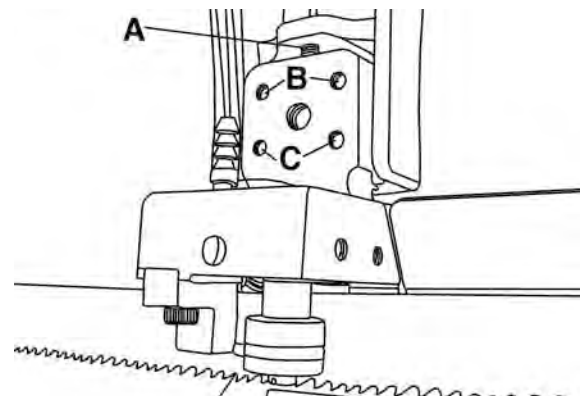

FIGURE 18
3. To make this adjustment, first loosen the set screws (A) Fig.18 (on both blade guide block assemblies).
4. Then adjust set screws (B & C) to pivot the blade guide block assembly. To pivot the blade guide block assembly inwards (towards the bandsaw), tighten the 2 lower set screws (C). For outwards travel, tighten the 2 upper set screws (B).
5. Adjust these set screws in pairs and adjust them until the blade is perfectly square with the table. Don't forget to retighten the 2 set screws (A) Fig.18 loosened previously.